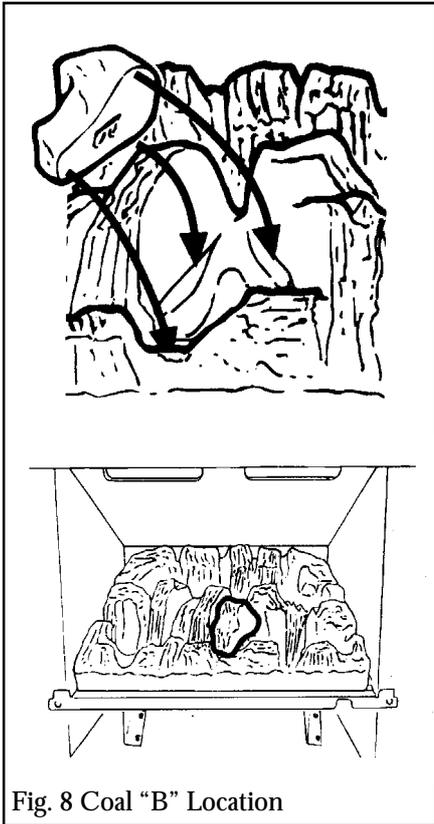

Fig. 8 Coal "B" Location
4.1.2 Position the front centre coal (embossed "B" on its underside) in the well in the coal bed marked "B" - see figure 8.